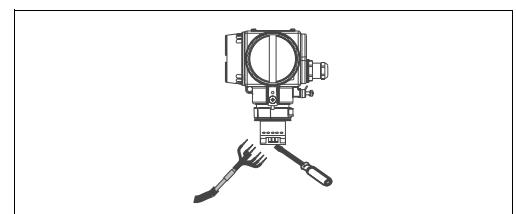
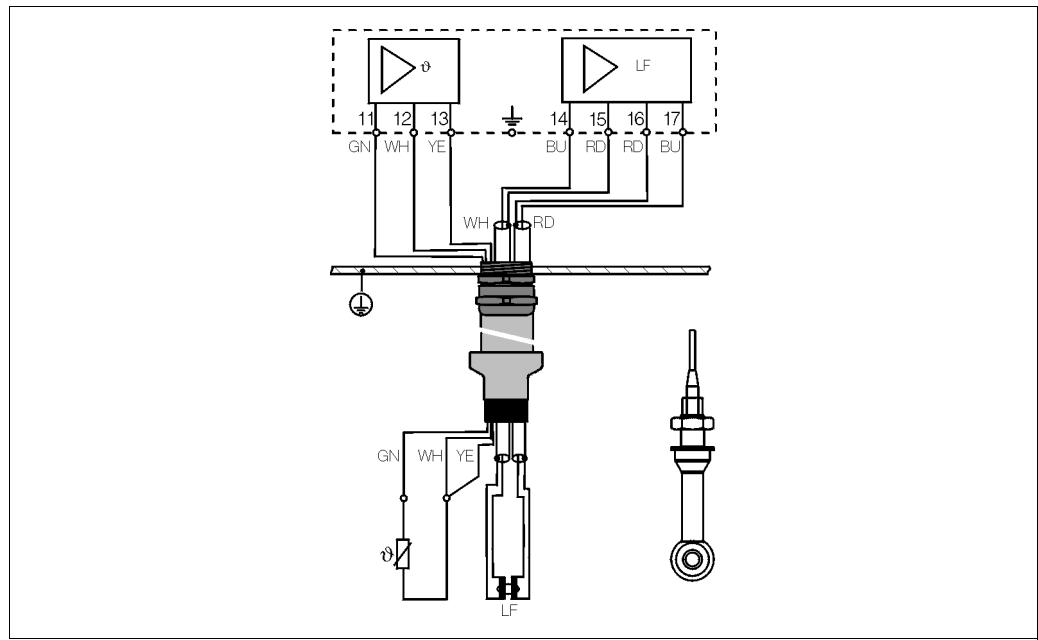

Fig. 22: Cable connection
Fig. 26: Sensor connection with terminal assignment
3. Connect the sensor cable (Fig. 22) acc. to the terminal assignment diagram (Fig. 26).